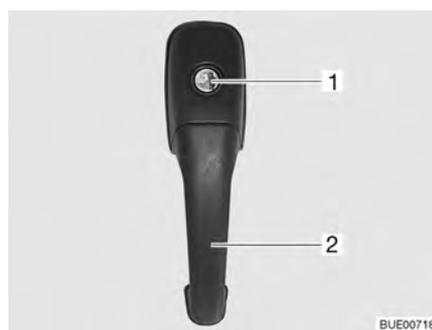

Fig. 24 Door lock of conversion door, outside
- Insert the key into locking cylinder (Fig. 24,1) and turn until the door lock is unlatched.
- Pull on the handle (Fig. 24,2). The door is open.
- Insert the key into locking cylinder (Fig. 24,1) and turn until the door lock is engaged.